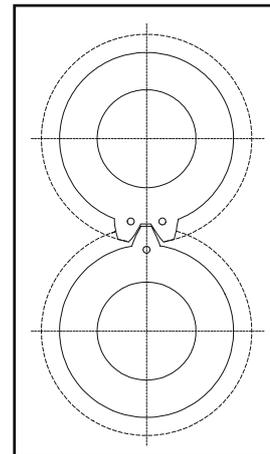

Figure 22
f) Fit clamp washers (26) and Screws (27). Tighten screws and check that shaft is free to turn but with some resistance. If shaft is very tight remove shims to reduce pre-load. If shaft can be moved from side-to-side, add shims to increase pre-load.
h) Fill space between bearings on shaft with grease - see Section 3 - and fit bearing shields. Re-fit shaft in it's correct bore in bearing carrier. Fit outer race shims and bearing retainer with a new O-ring (3). Fit clamp washers and tighten screws.
j) Fit gear spacers (8) gears (20), tab washers (11) and gear nuts (12) and adjust timing (not required for scimitar rotors) as in Section 6.12
a) Fit timing gears to shafts - ensure marks are aligned as Figure 22. Fit rotors but do not fit rotor case or rotor retainers. Do not fit gear nuts (12) yet.